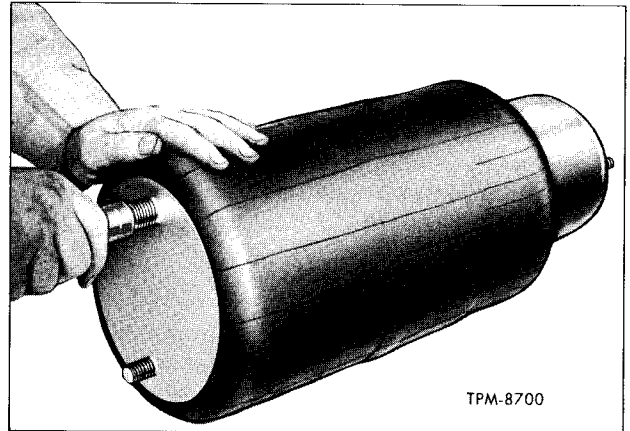

Figure 20—Seating Retainers In Bellows With Air Pressure
3. Apply air in bellows through opening in upper retainer stud (fig. 20) to seat lower and upper retainers in bellows.